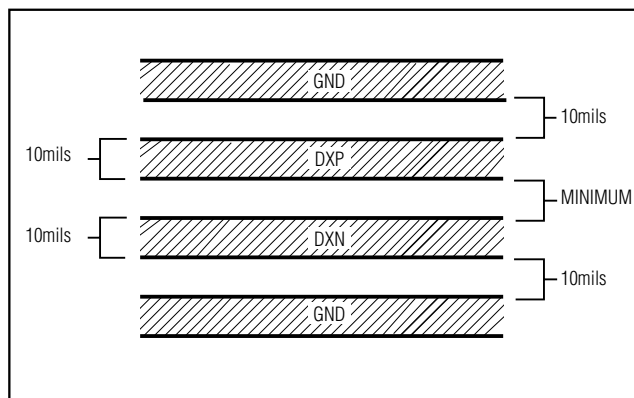

Figure 2. Recommended DXP-DXN PC Trace
- 3) Route the DXP and DXN traces in parallel and in close proximity to each other, away from any higher voltage traces, such as +12VDC. Leakage currents from PC board contamination must be dealt with carefully since a 20M Ω leakage path from DXP to ground causes about +1°C error. If high-voltage traces are unavoidable, connect guard traces to GND on either side of the DXP-DXN traces (Figure 2).
- 6) Use wide traces. Narrow traces are more inductive and tend to pick up radiated noise. The 10mil widths and spacings that are recommended in Figure 2 are not absolutely necessary, as they offer only a minor